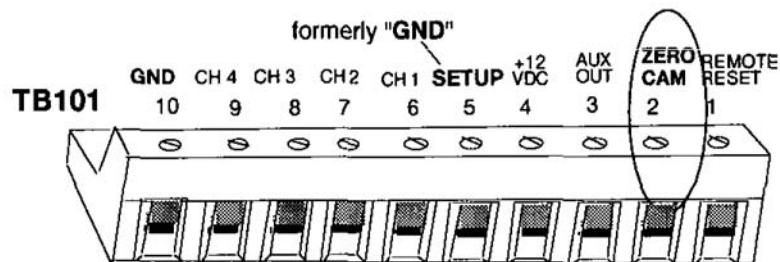

Figure 2-9. Connector for zero cam, and optional remote reset and chart recorder
The zero signal must come on approximately at 240° and turn off at 30° (approximately). The zero signal is a closure to ground. That means during the zero signal the cam switch must be closed. The closed switch makes a connection between the zero cam terminal (pin 2) and GND (pin 10) on connector TB101 (see Figure 2-9). If using a latching magnetic cam switch (LMCS) that uses magnets to turn the switch on and off, make sure you install the magnets at 240° and 30°. See instructions with switch for proper installation. Make sure that the zero signal does not turn off until after top dead center (TDC). For other types of switches (like a candy switch), you can set the switch after wiring is complete.
- Connect one of the wires to pin 1 (RESET) and the other to pin 10 (GND). See Figure 2-9 for connections.
3. Pull the connector out of its socket. Which wire you select is determined by the strain links location that you wish to monitor. Connect the wire that will record tonnage at the left rear strain link to pin 6 (channel 1). Connect wire for right rear strain link to pin 7 (channel 2), then pin 8 for left front (channel 3) and pin 9 for right front (channel 4). See Figure 2-9 for connections.